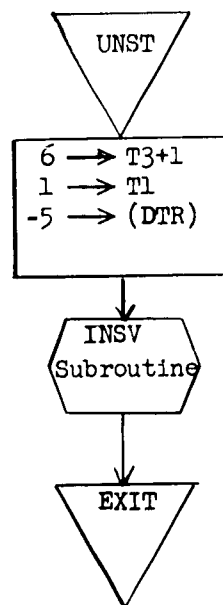

Figure 7.40 UNST
7.3.8 UNST Subroutine (Figure 7.40)